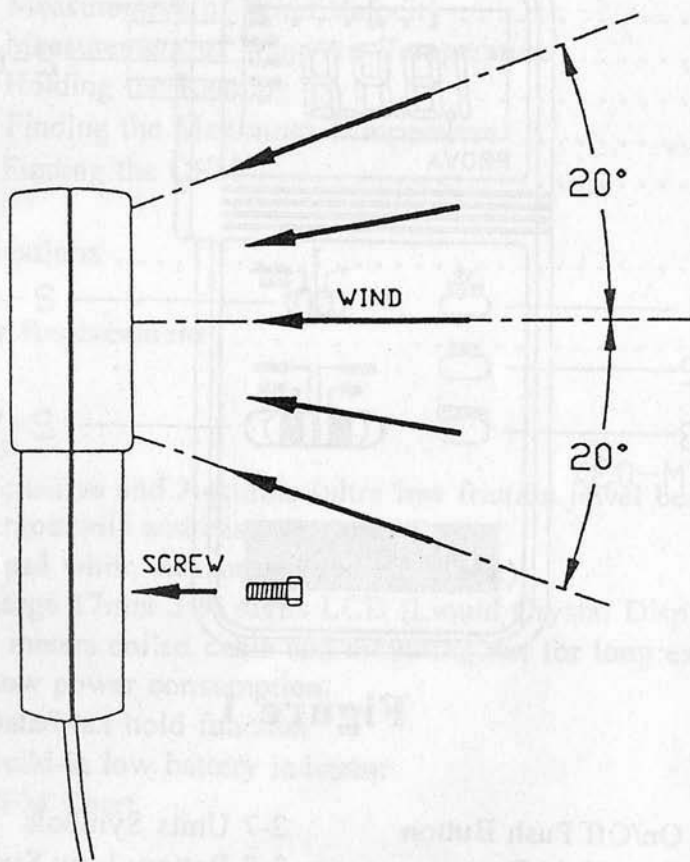

Figure 2
A. Measurement of Wind Velocity (refer to figure 2)